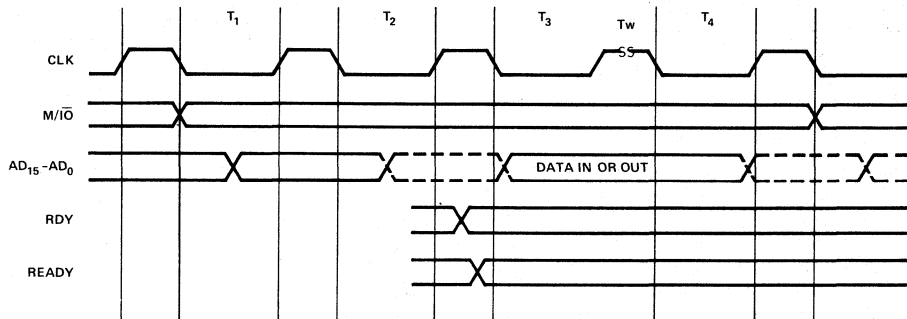

Figure 2-11. 8086 CPU Bus Timing
2.3.3 Bus Cycle Timing (Figure 2-11)